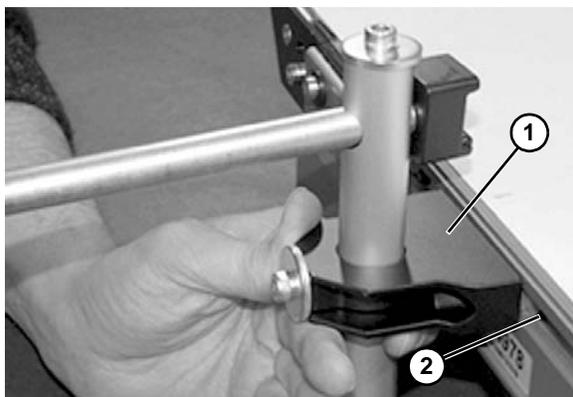

Figure 32
1. Install guide bracket assembly (**Figure 32, item 1**) into the conveyor t-slot (**Figure 32, item 2**).